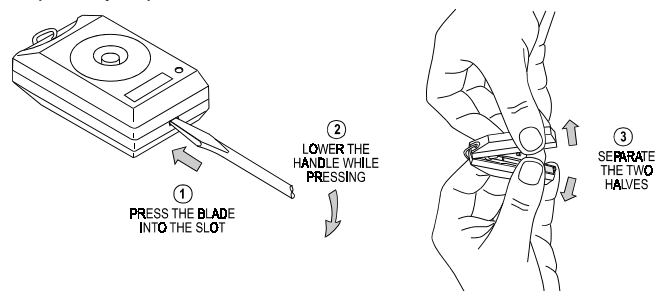

Figure 2. Opening the Case
- To open the case, refer to Figure 2. Insert an 1/8 inch screwdriver blade in the slot at the bottom of the case. Press the blade inward, applying moderate pressure, and while pressing, swing the handle slightly down until the covers partially separate.